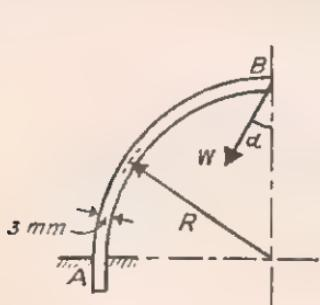

Fig. 43
23. A strip of steel of rectangular section 25 mm \times 3 mm is bent to the shape of a quadrant and loaded by a force W inclined at α to the vertical as shown in Fig. 43. Derive formulae for the vertical and horizontal movements at the free end B and hence find the value of α to give no horizontal movement at B .